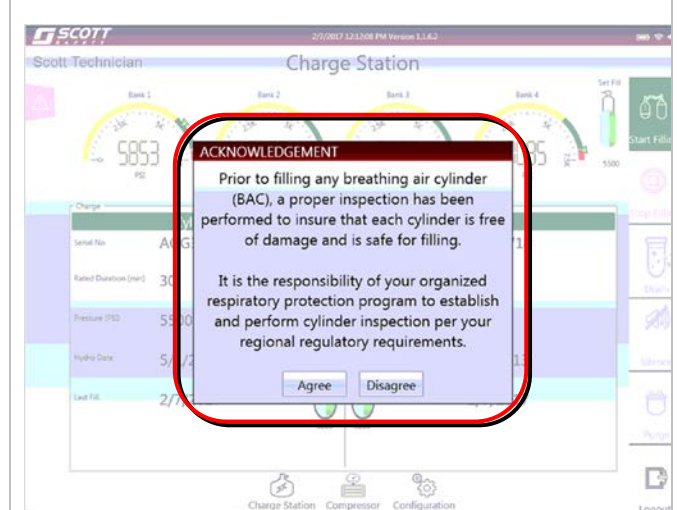

Figure 3.6-12: Safety Acknowledgement
11. The operator will be required to acknowledge that the cylinders have been inspected and are safe for filling. This message will only be displayed once during a single Log In. See Figure 3.6-12.